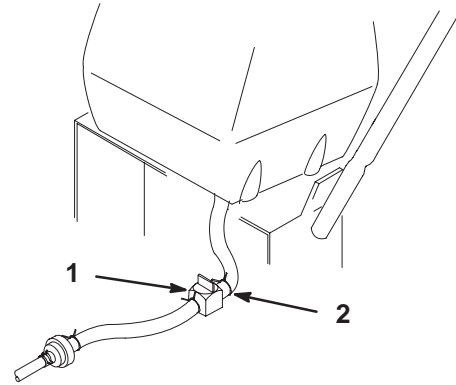

Figure 30
2. Close fuel shut-off valve at fuel tank (Fig. 30).
3. Squeeze the ends of the hose clamp together and slide it up the fuel line away from valve (Fig. 30).
4. Pull the fuel line off the valve (Fig. 30). Open fuel shut-off valve and allow gasoline to drain into a gas can or drain pan.
6. Open fuel shut-off valve at fuel tank (Fig. 30).
7. Check for fuel leaks and repair if needed (Fig. 30).